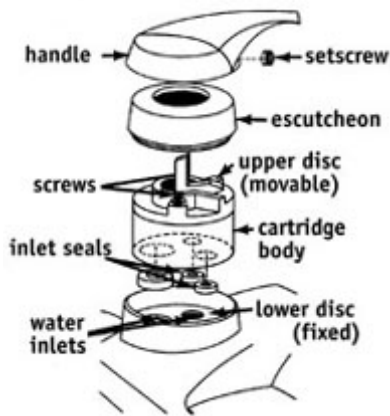

FIG. 4 - Disc faucet
- Use pliers to pull the disc assembly out of the faucet (Fig. 4).
- To repair a leaking *single-handle* disc, turn off both the hot and cold water and remove the handle to expose the disc assembly. Take out the screws to lift the assembly out of the faucet (Fig. 4).